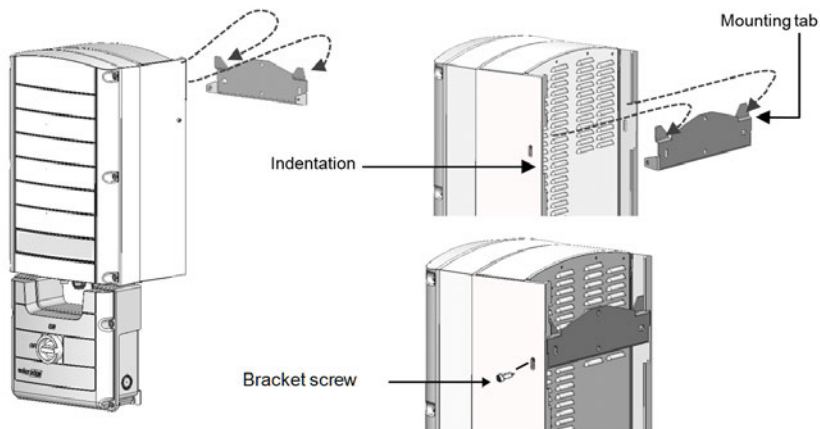

Figure 17: Hanging the inverter on the bracket
- Ensure that the flat edge of the bracket is at the bottom, as in *Figure 17*.
5. Hang the inverter on the bracket (see *Figure 17*): Lift the inverter from the sides, or hold it at the top and bottom of the inverter to lift the unit into place. Do not lift holding the Safety SwitchDC Safety Unit as it may be damaged.
9. Insert the two supplied screws through the outer heat sink fin on both sides of the inverter and into the bracket (see *Figure 17*). Tighten the screws with a torque of $4.0 \text{ N}\cdot\text{m}$ / $2.9 \text{ lb}\cdot\text{ft}$.